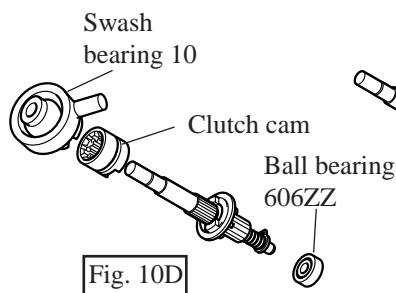

Fig. 10D
5. Disassemble swash bearing 10 and clutch cam as illustrated in Fig. 9D. And disassemble ball bearing 606ZZ with bearing extractor as illustrated in Fig. 10D.